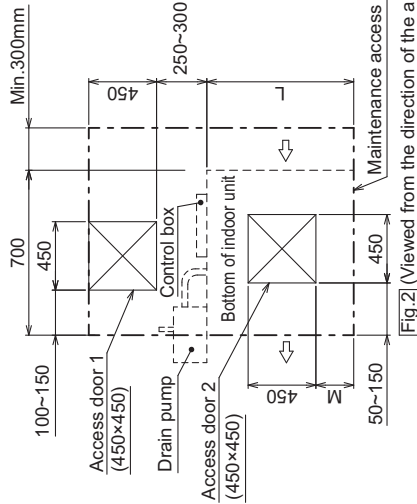
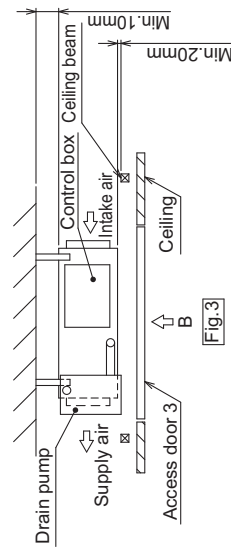

Fig.2 (Viewed from the direction of the arrow A)
Fig.3
- Create access door 1 and 2 (450x450mm each) as shown in Fig.2.
- (2) When a space of less than 300mm is available below the unit between the unit and the ceiling.
- (At least 20mm of space should be left below the unit as shown in Fig.3.)